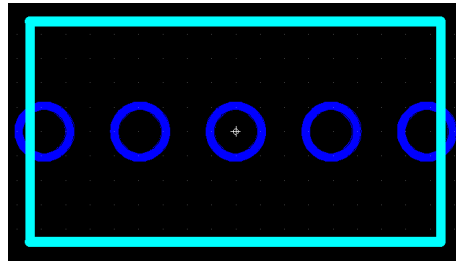

Figure 2: On/Off Switch Footprint
- e. Step 5: Set the *Drill hole Diameter (D)*: 1.00mm
- f. Step 6: Set the *Number of pins*: 5 and *Distances Between Pins (A)*: 2.00mm
7. Assuming that the previous steps were followed correctly you should see a footprint that looks something like figure 2. Now that the footprint is finished we can go to *File > Save to Database > User Database* and name your component *OnOff\_Switch* (you name it by typing the name into the *Existing parts*: box.. yes it is strange). Press *OK*. TAKE NOTE OF PIN NUMBERS, IT WILL BE IMPORTANT LATER!